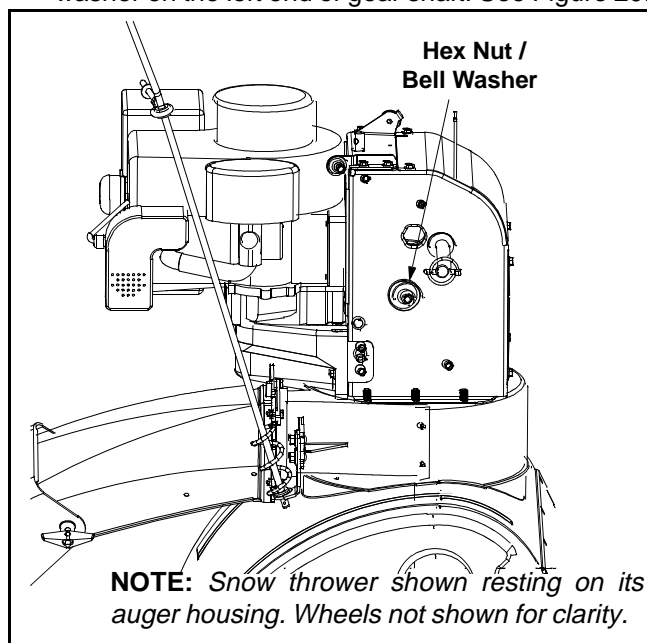

Figure 20
- Using a 7/8" wrench to hold the shaft, loosen, but do not completely remove, the hex nut and bell washer on the left end of gear shaft. See Figure 20.